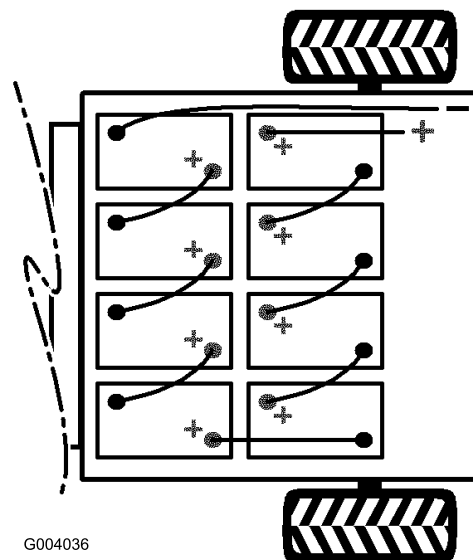

Figure 29
2. Disconnect the long, black, main negative lead running from the bank of batteries to the vehicle from the battery post (Figure 29).
3. Remove the long, red, main positive lead running from the bank of batteries to the vehicle from the battery post (Figure 29).
Note: Pay attention to the battery polarity when installing the new batteries (Figure 29).
9. Connect the batteries together with the battery cables removed previously, as shown in Figure 29.
10. Connect the long, red, main positive lead between the bank of batteries and the vehicle (Figure 29).
11. Connect the long, black, main negative lead between the bank of batteries and the vehicle (Figure 29).